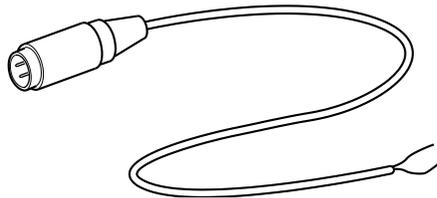

Figure 2.3 D.C. Supply Lead
2.4 D.C. Supply Lead (Figure 2.3)